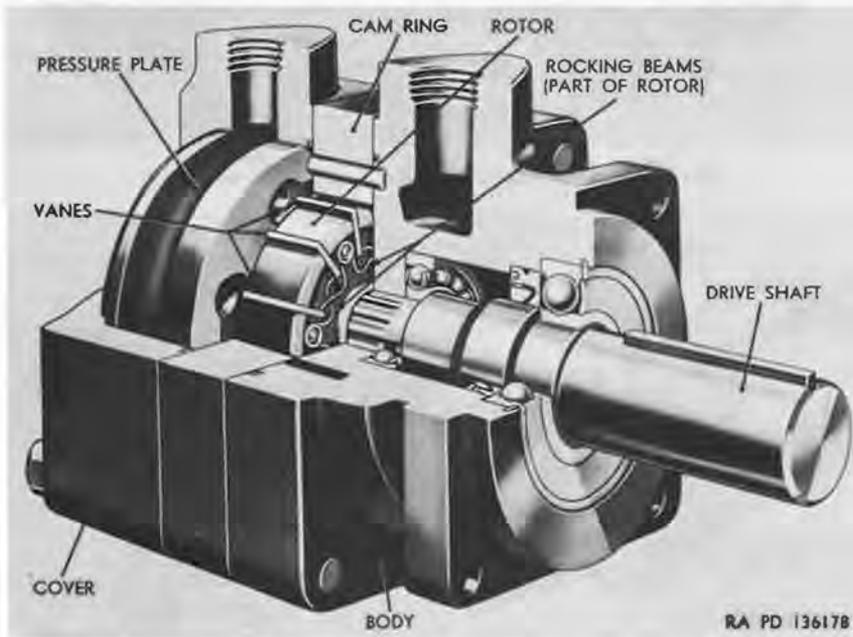

Figure 26. Hydraulic vane-type motor (cutaway view).
Begin the disassembly of the hydraulic vane-type motor (fig. 26) by removing the four hex-head cap screws (A) and plain washers (B) to release the cover. As soon as the cover (C) is removed, the pressure plate, spring washer (D), and two O ring gaskets (X) will also be removed. Remove the two shuttle valve retaining pins (W) to remove the two shuttle valve ball seats (E) and the two